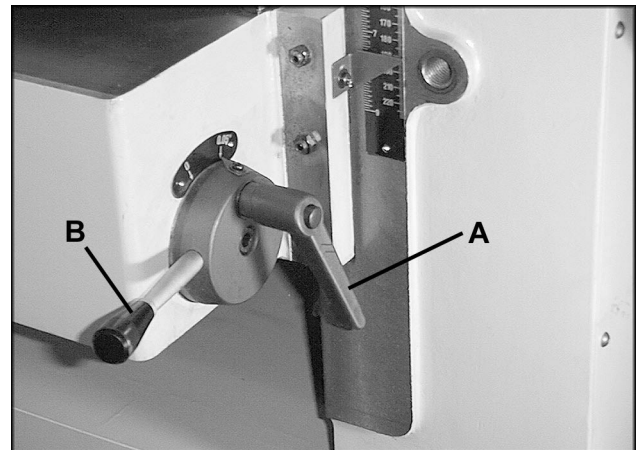

FIGURE 14
The planer is equipped with a quick set table roll adjustment. With a single lever, you can raise the rolls from their finishing board height to a roughing board height. See Figure 14. The range is 0.00 to .060"
1. Position the lever (B-Fig. 14) to zero setting.